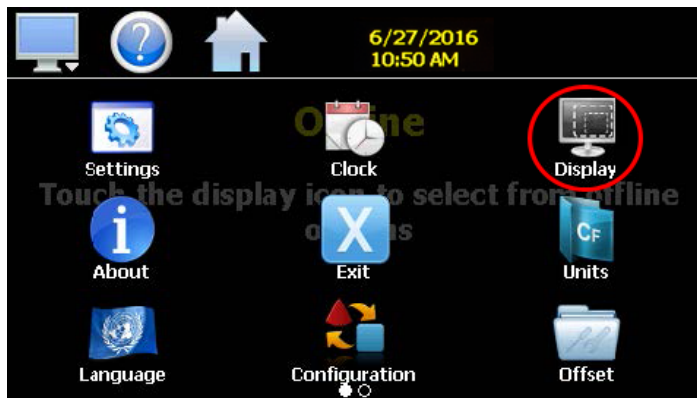

Fig. 110: Display Icon
1. Select HOME - MONITOR - (swipe screen) SETTINGS - MONITOR - OFFLINE - Select YES - MONITOR - OFFSET icons (Fig. 110)